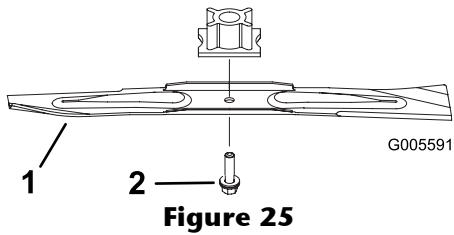

Figure 25
2. Remove the blade bolt and the blade (Figure 25).